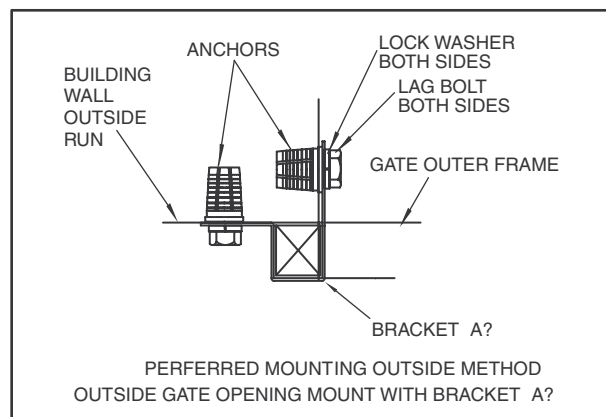

FIGURE B2
b. OUTSIDE GATE OPENING MOUNT WITH BRACKET "A" - See Figure B2